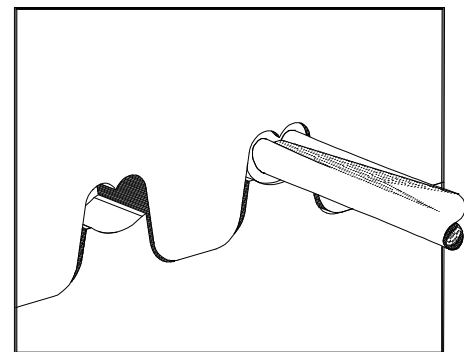

Figure 3
3. Place a wire into the terminal and up against the locator blade. See Figure 3. On tools without locators line the wire up with the conductor and insulation grips visually.